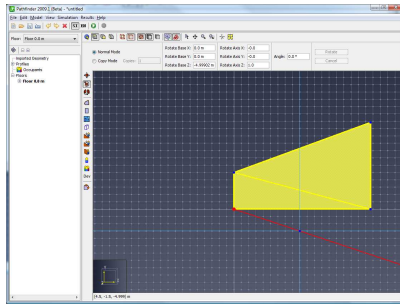

Figure 119. Base point of rotation
- The first specifies the base of rotation (Figure 119).